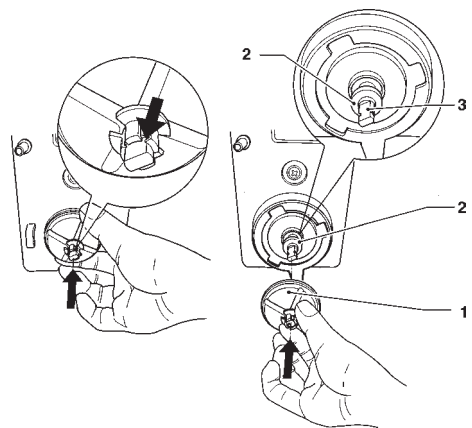

Fig. 34
- the fans can be removed by simply applying a light traction to let them free (see Fig. 34);
By inserting the fan deeply, the stuffing box seal will assume the correct position (see Fig. 34).